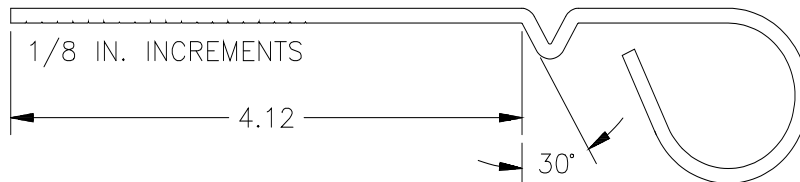

Figure 5. Make Dipstick as Shown Above.
- B. On certain models, a dipstick method can be used for checking the oil on aircraft. See Figure 5 and the table below for information.